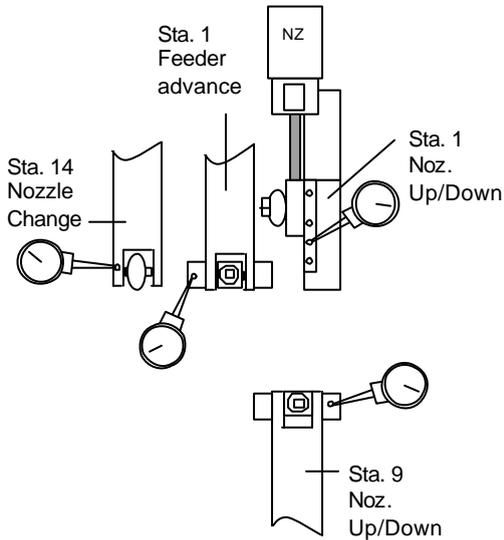

Figure 8
4. Set a dial gauge on the cam lever at the locations shown in fig 8 and measure the clearance according to the table below: